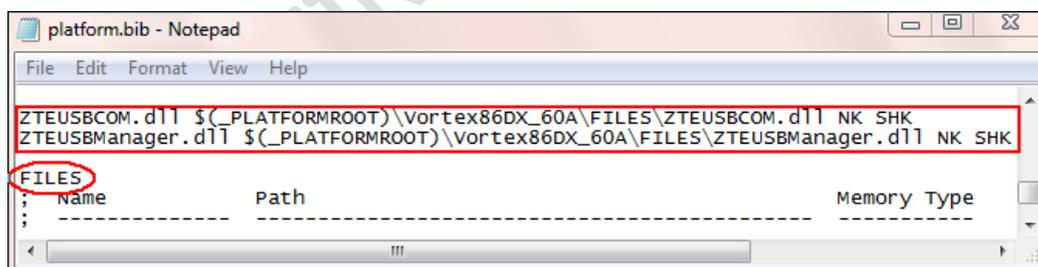

Figure 2-3
**Note:** TARGETBSP is the actual BSP directory. Figure 2-3 shows an example in WinCE6 system.